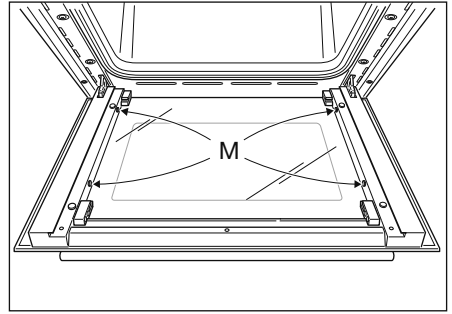

Fig.37a
- Check that the four rubber pads are in place ("M" in Fig. 37a).